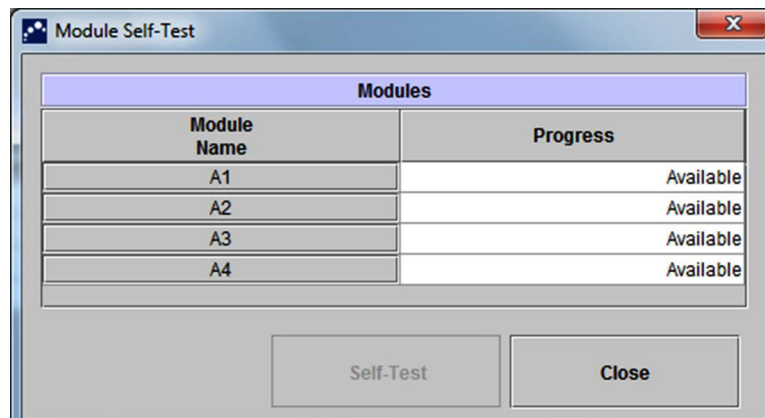

Figure 9-34. Module Self-Test Dialog Box
3. Click on **Maintenance** on the menu bar and select **Perform Self-Test**. The Module Self-Test dialog box appears. See Figure 9-34.